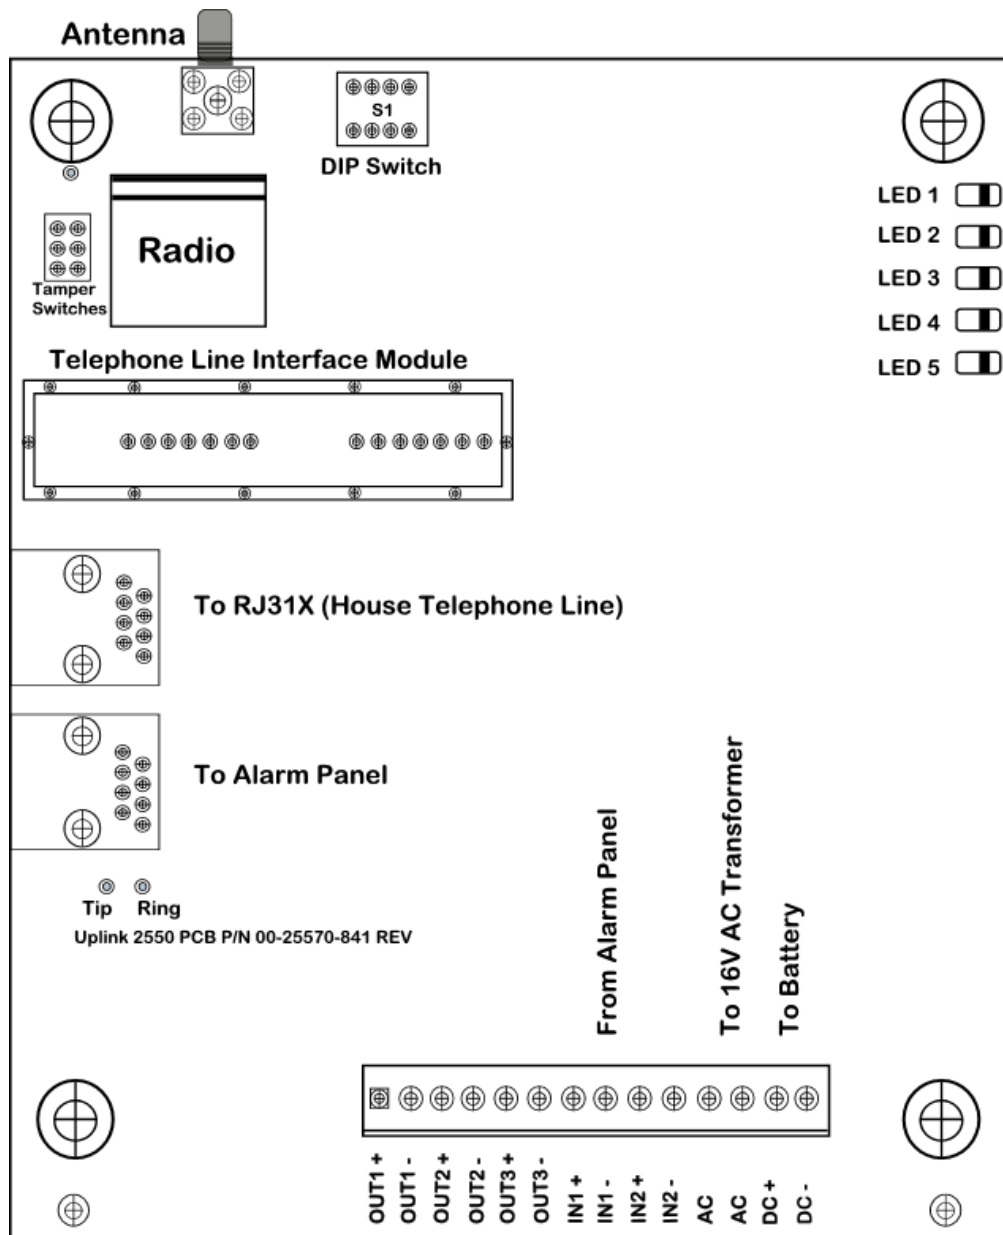

Figure 1: 2550-CB PC Board Details
1. Open the enclosure's door. Locate the four (4) mounting holes. Use the enclosure as a template to mark where to drill holes for the screws and anchors that will hold the enclosure in place on the wall.
3. Go to the red, 4-position Dipswitch as shown in Figure 1 and set the dipswitch as appropriate for this installation. (See Section 7B.)